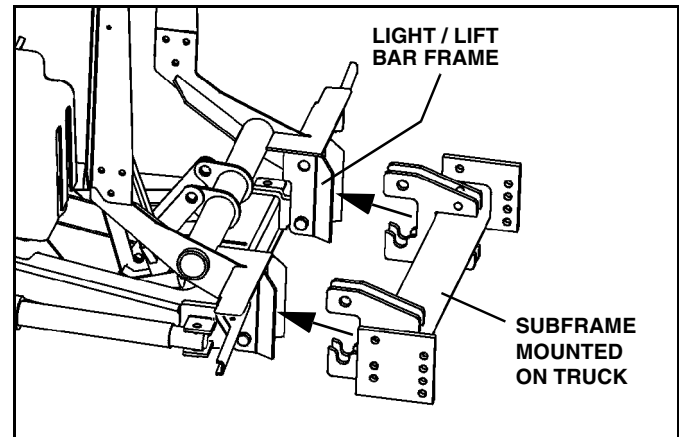

Figure 1-12
1. Drive truck into plow. Align light/lift bar frame outside of subframe lugs. Pins should fit inside slots cut into subframe lugs. (See Figure 1-12).